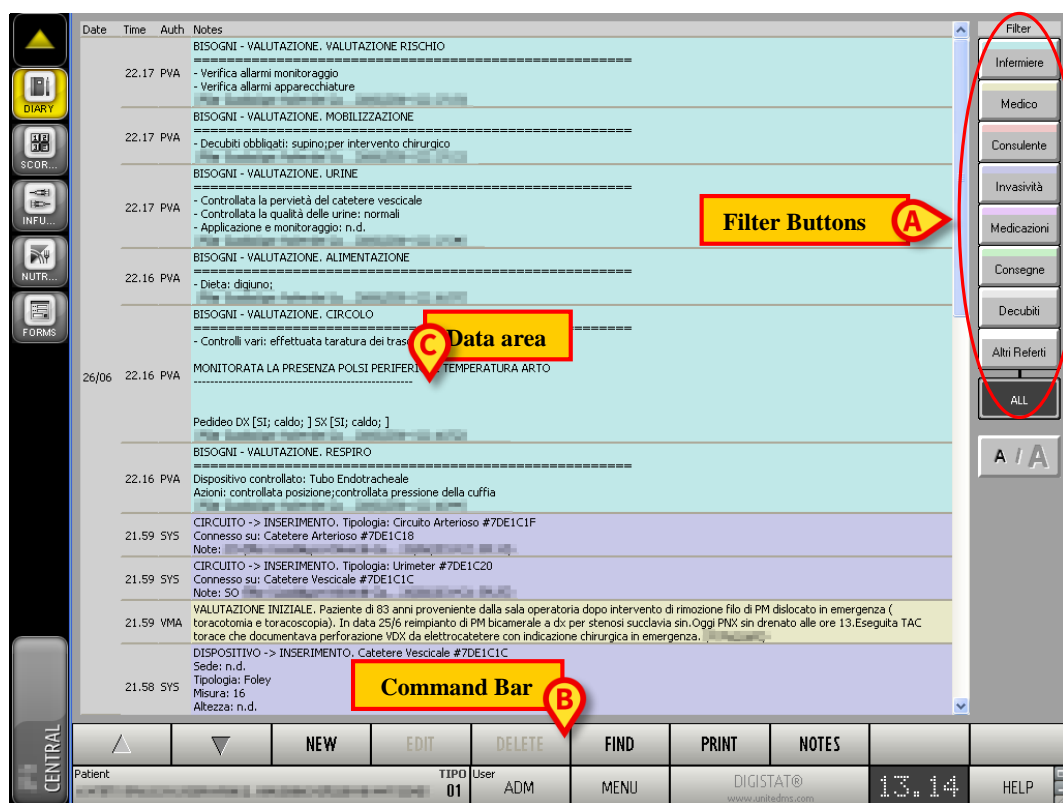

Fig 55
When a patient is selected, the Clinical Diary main screen appears as in Fig 55. Some of the buttons on the command bar are active (Fig 55 **B**). The filters buttons on the right are also active (Fig 55 **A**). The related procedures are described later in this manual.
Fig 55 and Fig 56 display examples of clinical diary.
- the filter buttons (Fig 55 **A** - see paragraph 7.5)
- the command bar (Fig 55 **B** - see paragraph 7.6)
- the data area containing, when diary entries exist, the actual clinical diary (Fig 55 **C** - see paragraph 7.4).
The buttons on the right of the screen (Fig 55 A, Fig 60) make it possible to filter the diary contents.